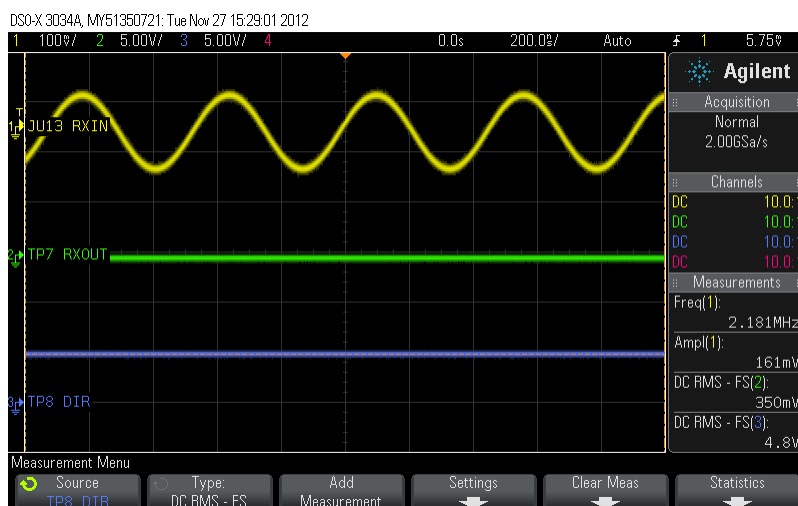

Figure 7. Rx Channel Evaluation: 160mVpp input at RXIN
4. Leave TP6 (TXIN) floating or short it to TP3 (VL).
10. Example waveforms with a 160mVpp sine wave input at J1 are shown in Figure 7. RXOUT is low and DIR is high indicating that the device is in Receive mode.